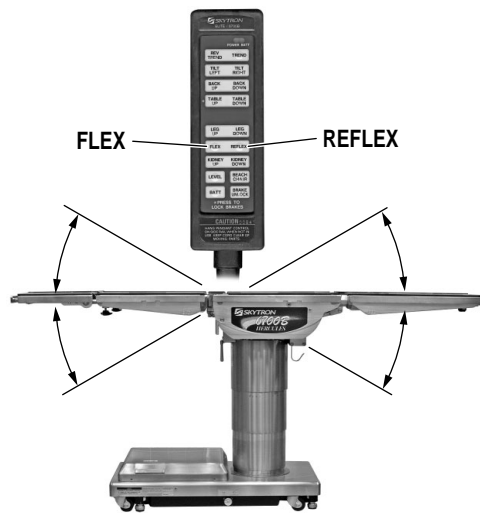

**Figure 2-10. Leg Section Positioning**
**f. Leg Section.** To lower the leg section, press the LEG DOWN button (figure 2-10). The leg section will go down to 100° below horizontal. To raise the leg section, press the LEG UP button. The leg section will go up to 20° above horizontal.